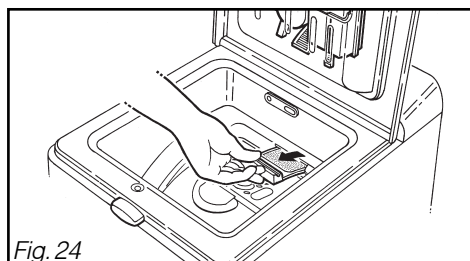

Fig. 24
- remove the filter from its housing by pulling it towards you (*Fig. 24*).